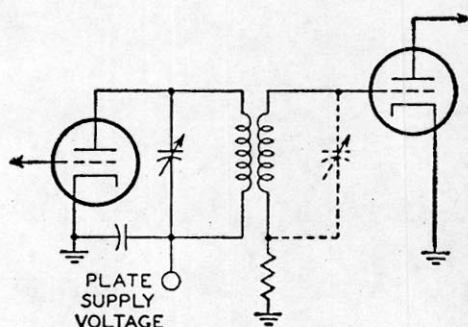

Fig. 40
**Direct inductive coupling**, shown in Fig. 40, is very efficient, but also involves high coupling impedances and, therefore, requires that the driver and driven stage be in close proximity. The